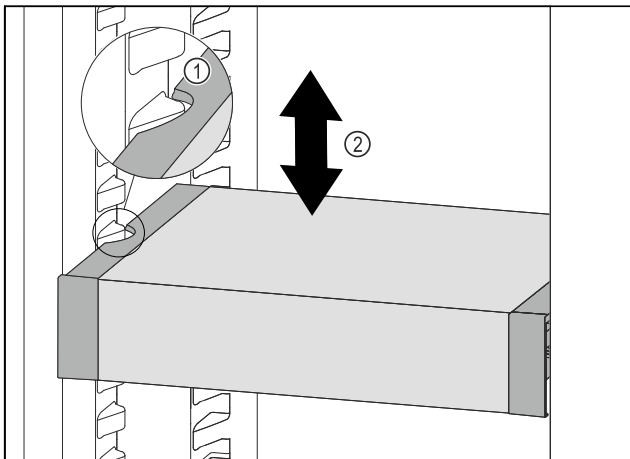

Fig. 119
- Pull VarioSafe forwards until the recesses in the side of the VarioSafe are at the level of the support rib in the refrigerator compartment. *Fig. 119 (1)*
- Move VarioSafe up or down in the refrigerator compartment until the desired height is reached. *Fig. 119 (2)*